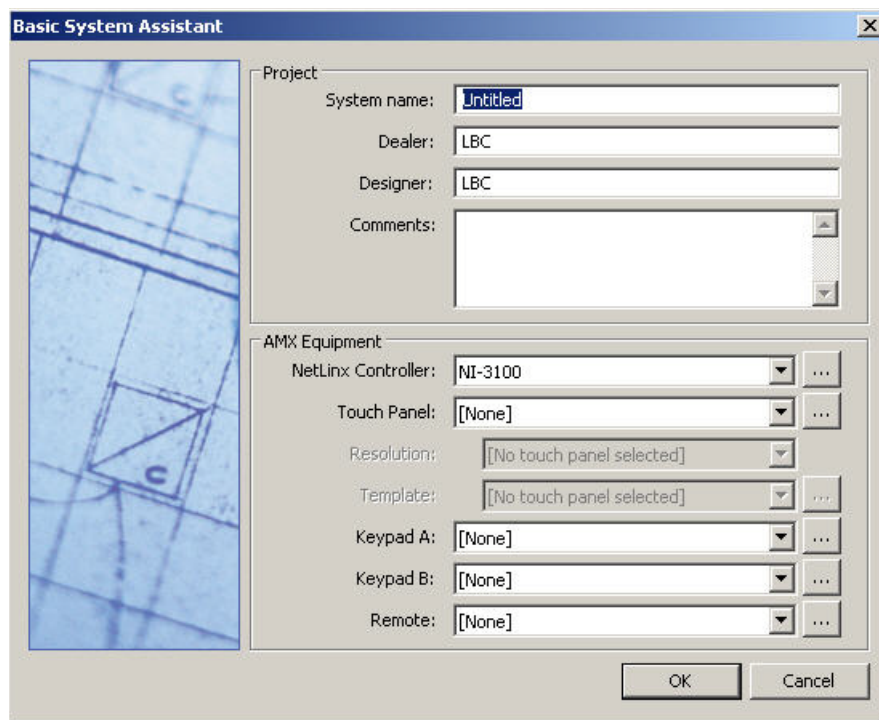

FIG. 29 Basic System Assistant dialog
1. Select **File > New > Basic System Assistant** (or select *Basic System Assistant* in the Welcome Screen) to access the *Basic System Assistant* dialog (FIG. 29).